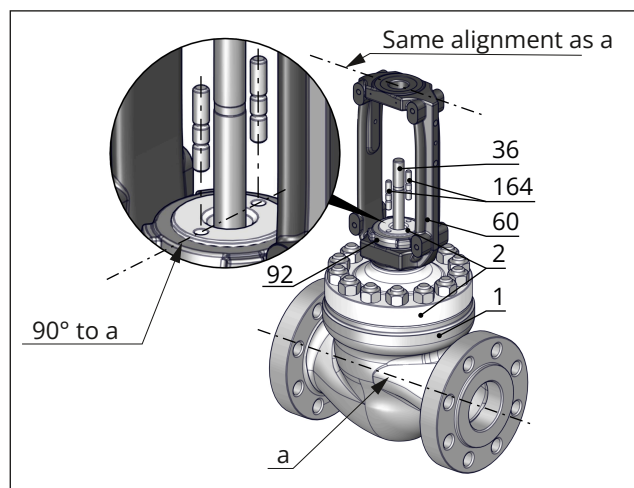

Fig. 26: Alignment of bonnet on the valve body and alignment of yoke on the bonnet
2. Fasten the travel indicator scale (84) with hanger (83) and warning label (255), if applicable, to the yoke using the screws (82). While fastening it, position the travel indicator scale (84) on the hanger (83) according to Table 8.
3. Screw tight the holder (302) using the screws (306) and washers (308). Observe the tightening torques specified in Table 7.
4. Place the yoke (3) on the bonnet in such a way that the two holes on the top of the bonnet are aligned with the open sides of the yoke (see Fig. 26).
5. Fasten the yoke (3) using the castellated nut (92).
- a) Place the packing flange (162) over the studs (164) of the valve bonnet (2/21) on the packing follower (8).
- b) Thread the two packing nuts (163) (including disk springs when packing flange is loaded by external spring elements) onto the studs (164) and finger-tighten them. In the version with spring-loaded packing, the packing nuts (163) must be guided through the holes in the packing flange.